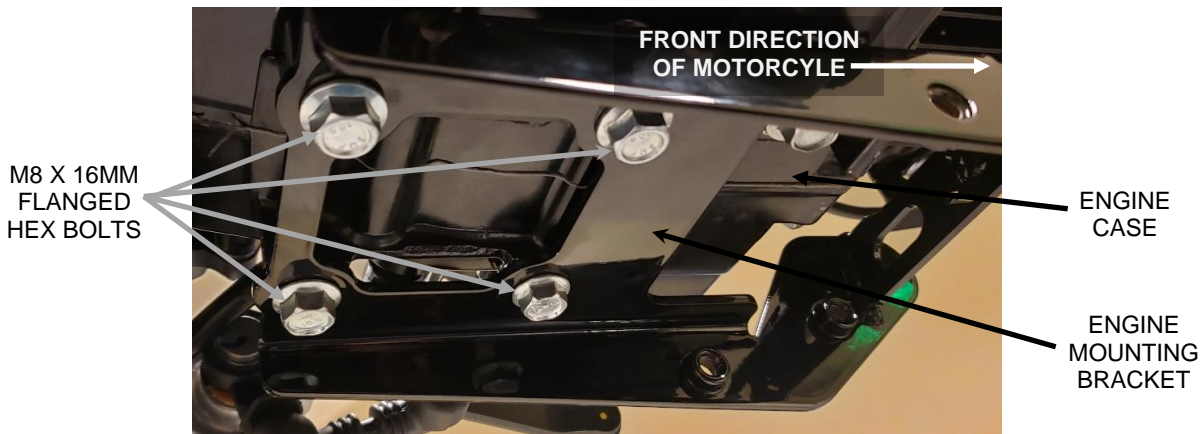

FIGURE 3
4. Install the lower engine mounting bracket to the bottom of the engine case by inserting (4) of the supplied M8 x 16mm flanged hex bolts through the holes in the mounting bracket and into the threaded bosses on in the engine case. See **Figure 3**. Snug the bolts but do not tighten at this time.